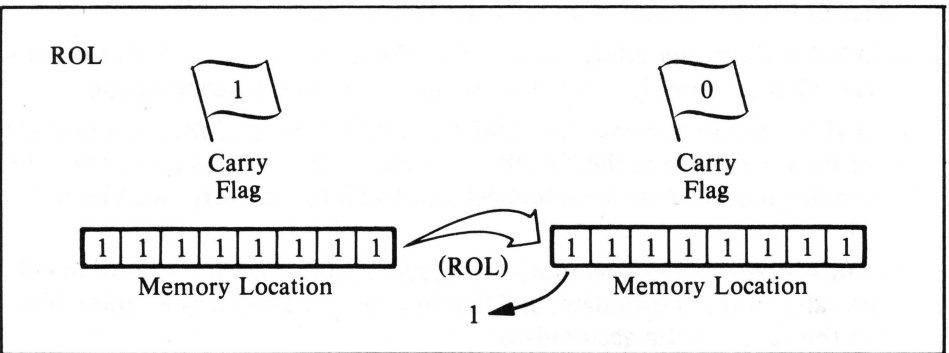

Figure 14-3. Rotate left
- **ROL** — Rotate left (accumulator or memory). Rotates all bits to the left, through the Carry; similar to ASL, but the value in the Carry before the operation is not lost, but is instead moved into the lowest order bit (see Figure 14-3).